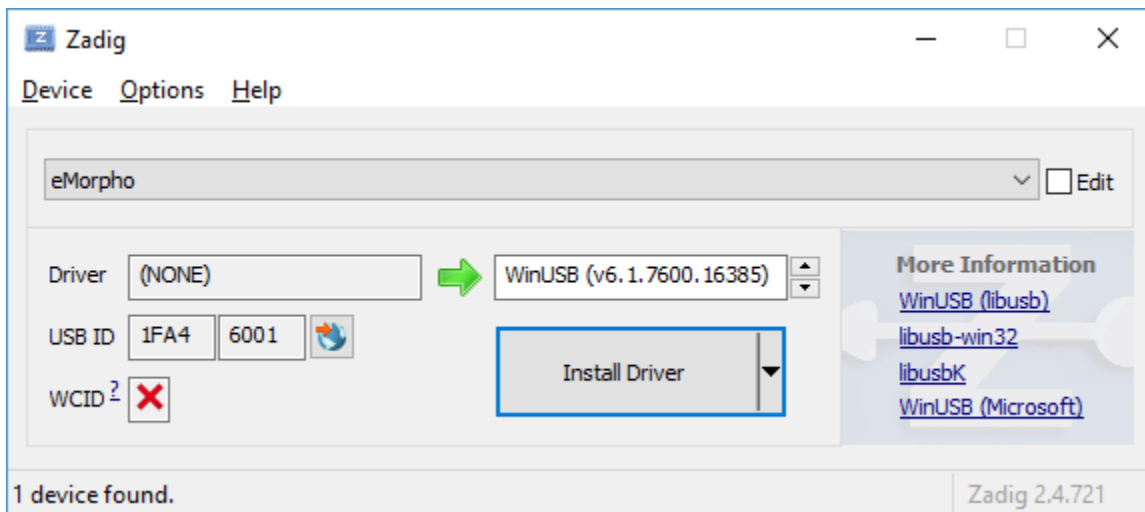

Figure 9. Zadig configuration.
5. Associate the Bridgeport Instruments usbBase with the correct driver. Run **Zadig** from the **SpecFIDLER** folder in the Start Menu. Select the **eMorpho** device from the drop-down. (If this option does not appear, select **Options->List All Devices** from the menu.) Change the driver to **WinUSB** and click **Install Driver** (Figure 9).